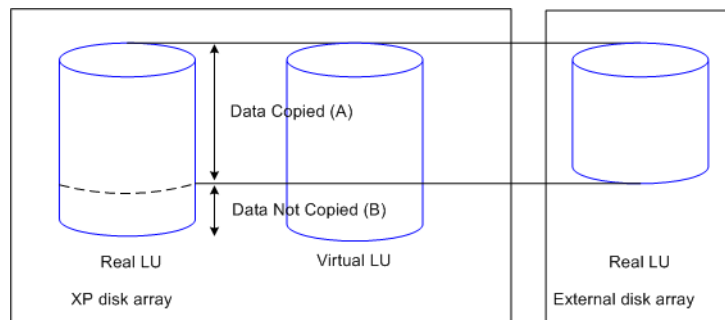

Figure 360: Data Copy Range of Copy Processing for Flex Copy
Figure 360 shows the range of the data copied when the capacity of the real LU of the external disk array is less than that of the XP disk array. In this case, Flex Copy uses the capacity (A) of external LU as the data copy range for copy processing. Data stored in the range above the capacity (B) of the real external LU is not copied.
In the example shown in Figure 360, if you copy data from the external disk array to the XP disk array, the data (A) in the external disk array is completely copied to the XP disk array. However, if you try to copy data in the reverse direction (i.e. all the data (A + B) in the XP disk array to the external disk array), some of the XP disk array data (B) cannot be copied.